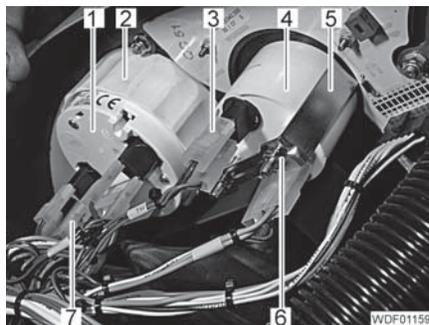

Fig. 458 Instruments attachment
- Remove the plugs (Fig. 458,3).
- Unscrew the 2 nuts (Fig. 458,6).
- Remove the bar (Fig. 458,5).
- Carefully push the fuel tank gauge (Fig. 458,4) to the front side and out of the instrument panel.
- Carefully insert the fuel tank gauge (Fig. 458,4) from the front side into the instrument panel.
- Place the bar (Fig. 458,5) into position.
- Screw the 2 nuts (Fig. 458,6) with spring lock washers onto the thread.
- Tighten the 2 nuts (Fig. 458,6).
- Attach the connectors (Fig. 458,3) to the fuel tank gauge.